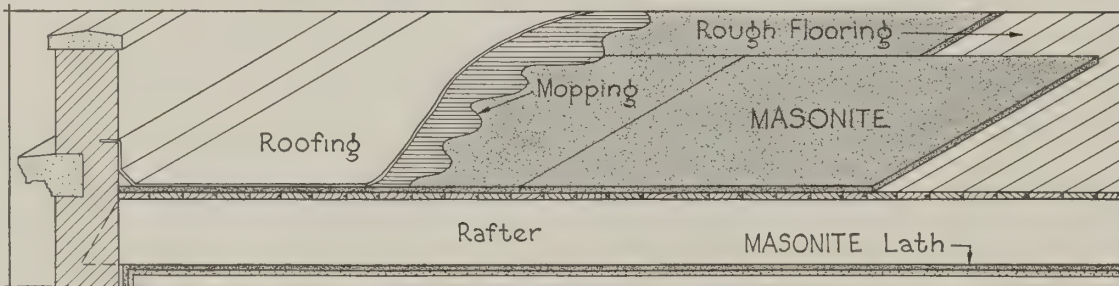

FIG. 11 ROOF INSULATION OVER WOOD DECK
*Note:* See Figures 11 and 12, page 11.